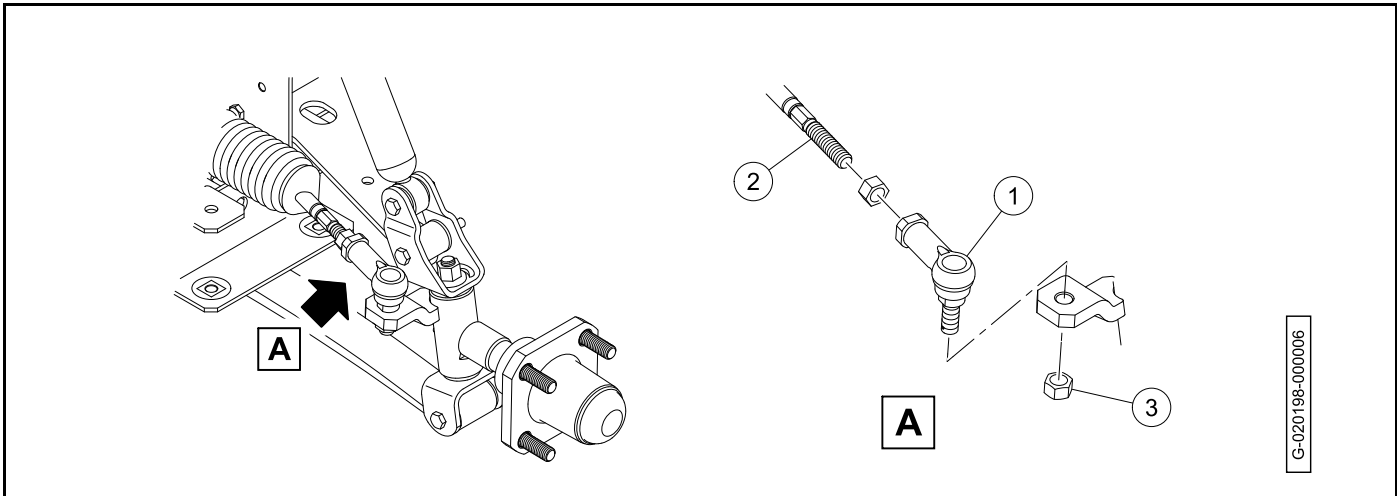

Figure 7-13
1. Install tie rod end (1) onto the drag link (2) to a depth of 1/2 inch (12.5 mm) (**Figure 7-13**).